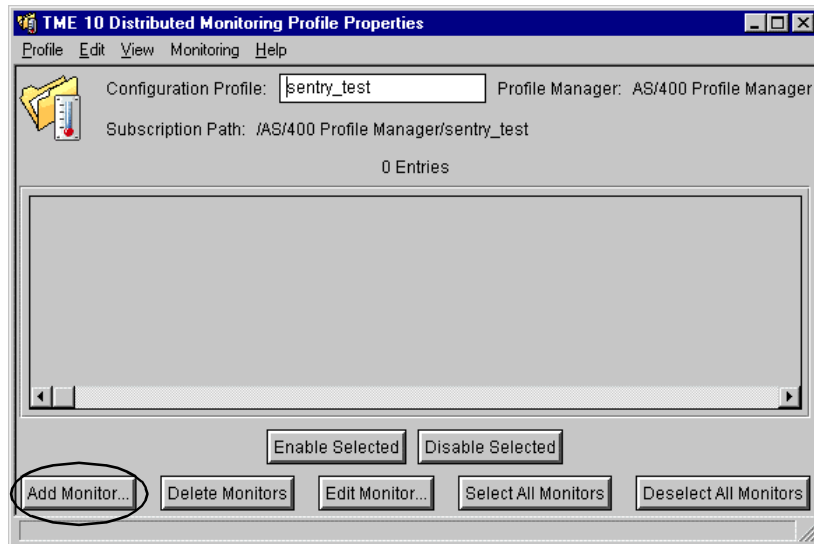

Figure 114. The Distributed Monitoring profile
3. To create a profile, double click on the icon, and you will see an empty profile. To add a monitor, select **Add Monitor** from the bottom left as indicated in Figure 114 on page 237.